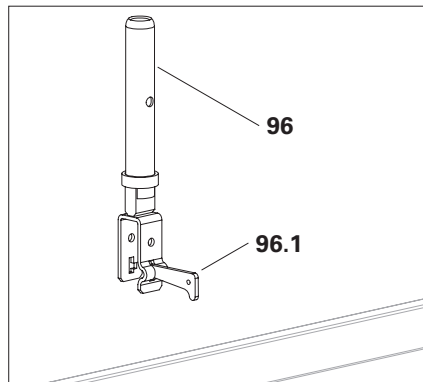

Fig. A11.09b
1. Pull the wedge (**96.1**) out of the clamping part and put the clamping part over the horizontal ledger. (Fig. A11.09b)